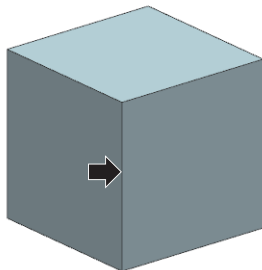

Fig 6-14 A Block
1. Create a new part file and create a block as shown in Fig 6-14.
5. Select the vertical edge designated by the arrow in Fig 6-14.